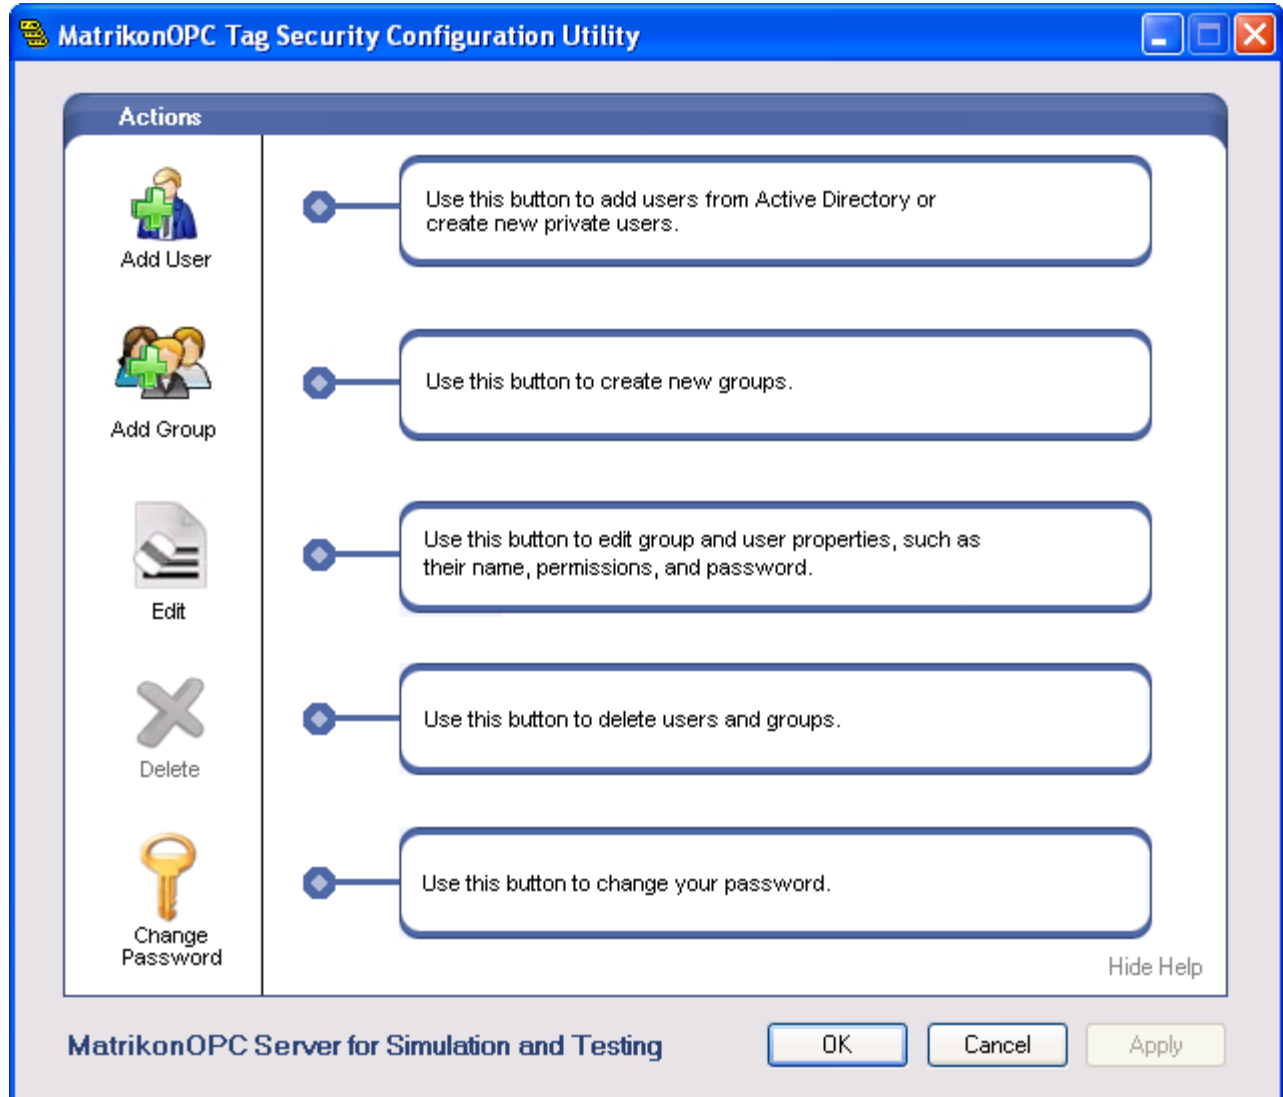

Figure 78 - MatrikonOPC Tag Security Configuration Utility Main Screen
4. The **MatrikonOPC Tag Security Configuration Utility** screen (Figure 78) appears.
The bottom left-hand side of the **MatrikonOPC Tag Security Configuration Utility** screen displays the name of the OPC server that is being configured for tag security. In Figure 78 above, the **Utility** screen shows that the **MatrikonOPC Server for Simulation and Testing** tag security is being configured.